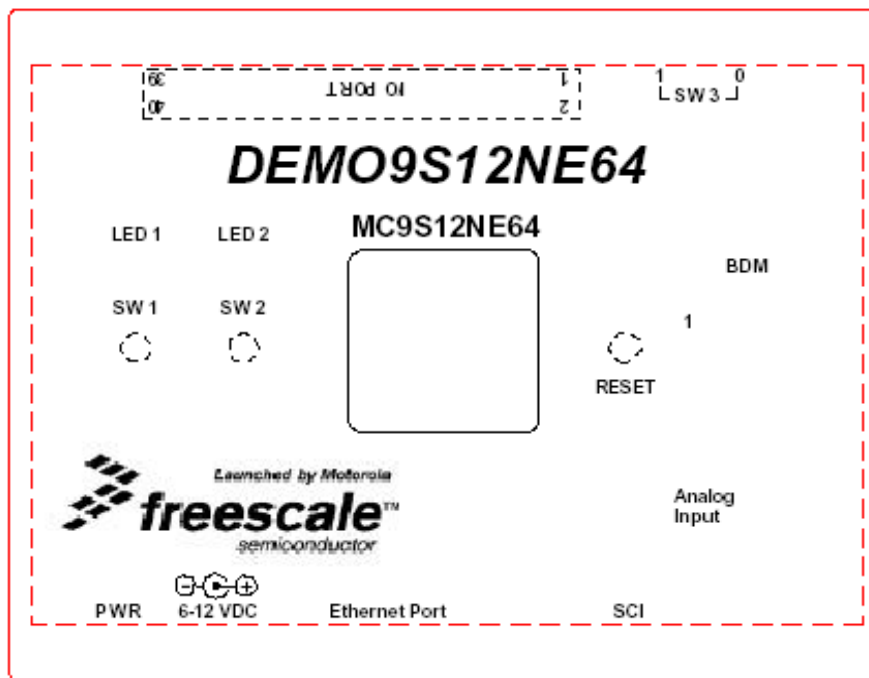

Figure 1-1 DEMO9S12NE64 Case Silk
- Figure 1-1 shows the case silk on the top of the DEMO9S12NE64